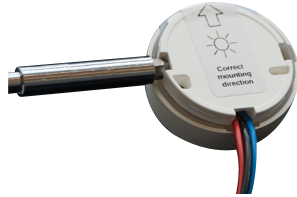

Fig. 9a
1. Gently remove cover from back of daylight sensor, taking care not to lose it (See Figures 9a and 9b).